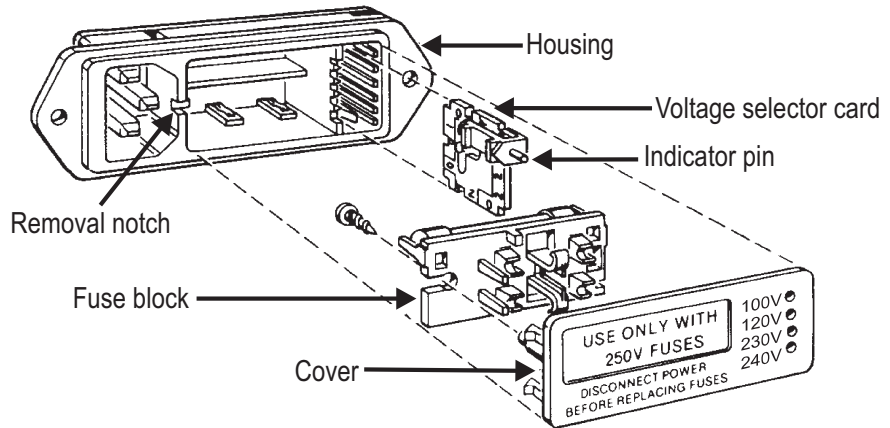

Figure A-2. Exploded Diagram of Power Entry Module
Attached to the rear of the Cover (shown on Figure A-2) is the fuse block. The fuse block can have two orientations. One orientation is for the 100 V and 120 V settings, and the other is for the 230 V and 240 V settings.
1. If the Cover is not already removed from the instrument, remove it by inserting a small blade screwdriver (or similar tool) into the Removal notch (shown on Figure A-2) and prying gently.
1. If the Cover (see Figure A-2) is not already removed from the instrument, remove it by inserting a small blade screwdriver (or similar tool) into the Removal notch (shown on Figure A-2) and prying gently.